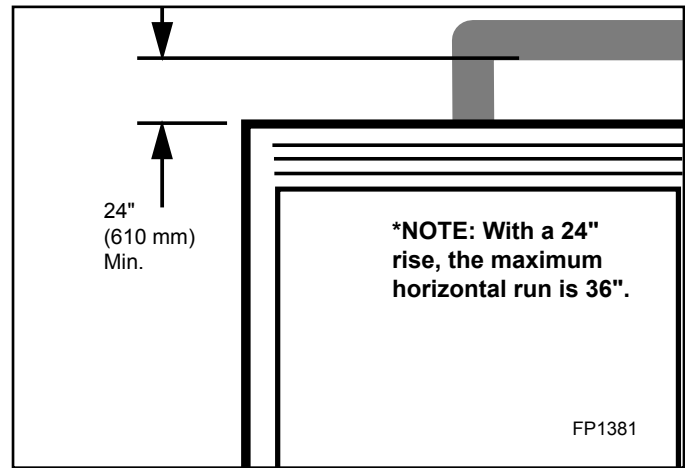

Figure 5.6 Horizontal Run with Minimum Vertical Rise
- A minimum of 24" is required before a 90° elbow. If a 90° elbow is fitted directly after 24" vertical section mounted to the top of the fireplace, the maximum horizontal vent run before the termination is 36" (914 mm). See Figure 5.6.